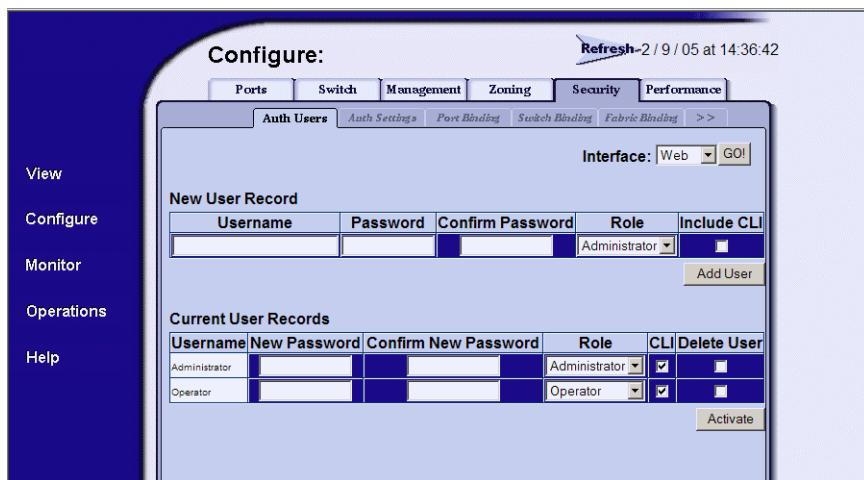

Figure 51 Auth Users tab
1. Select **Configure** > **Security** to display the Authorize Users (Auth Users) tab (Figure 51).